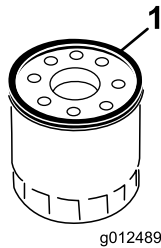

Figure 39
7. Use your finger to coat the new filter gasket with clean engine oil (Figure 39).